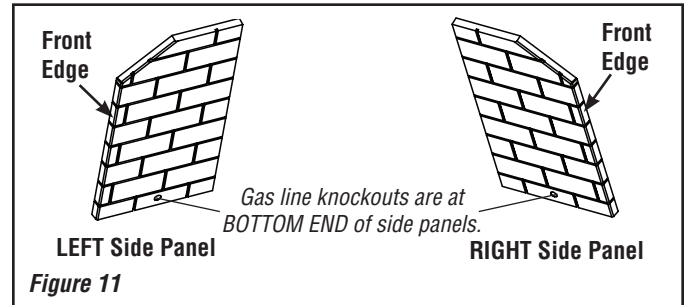

Figure 11
- 6.1. Identify the **LEFT** and **RIGHT SIDE** refractory panels, as shown in **Figure 11, below**.